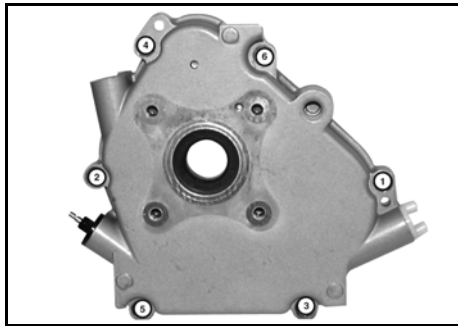

Figure 23
- Figure 23 - Horizontal Shaft Models 120000 and 150000.